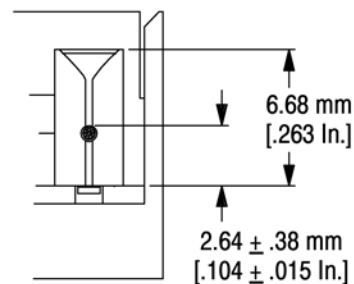

Figure 5
4. Inspect the connector for proper termination using the inspection requirements in Figure 5.
Inspect each termination to ensure it meets the inspection criteria shown in Figure 5.